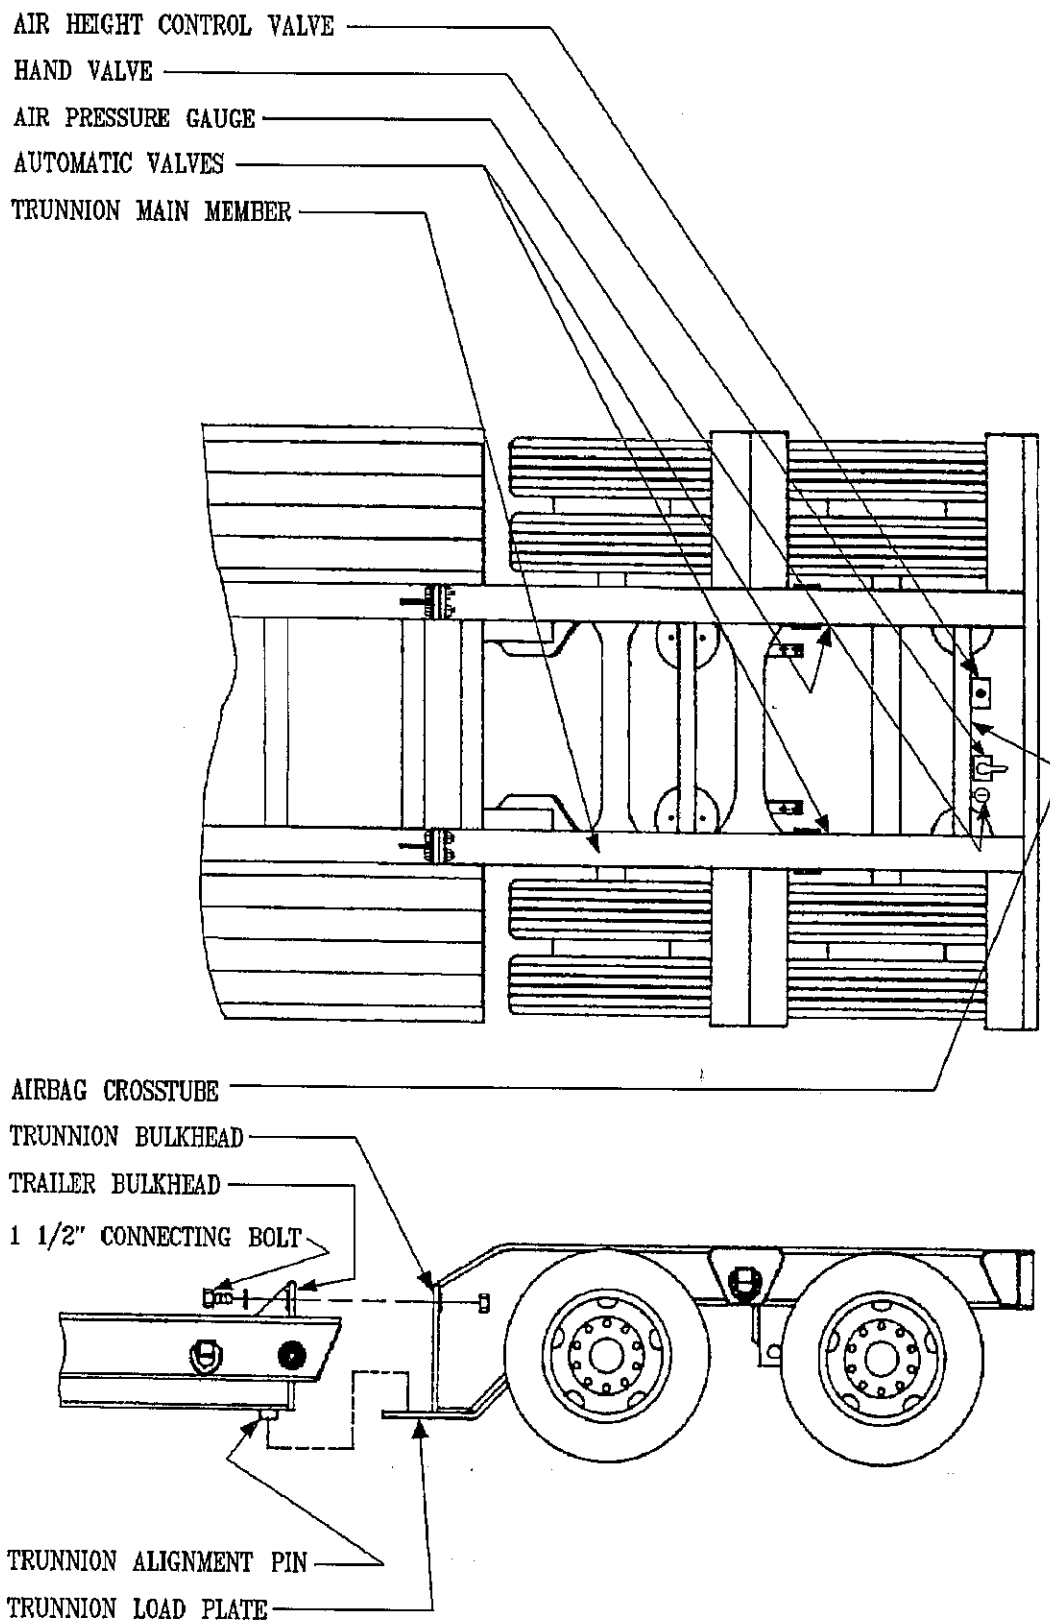

FIG. 5-2 DETACHABLE TRUNNION
- Remove the four connecting bolts from the semitrailer and trunnion bulkheads. (See FIG. 5-2) Use a crane, hoist, or other suitable lifting device to slightly lift the back of the semitrailer bed if necessary, to provide relief on the bolts, allowing them to be removed.
- Lower the semitrailer bed until the trunnion alignment pins are inserted into the trunnion load plates. (See FIG. 5-2)